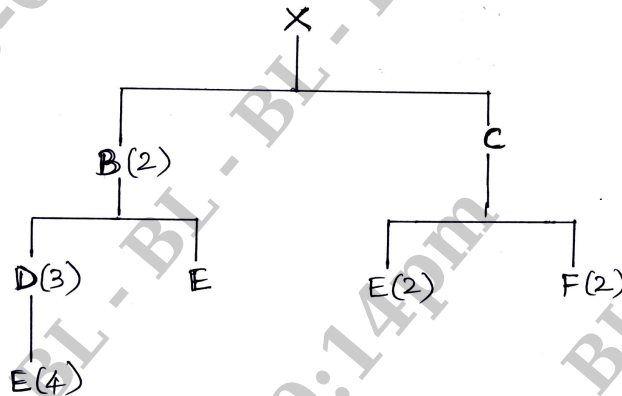

Fig.Q9(b)
- b. Use the information given in the Fig.Q9(b) (product structure tree) and determine the quantities of B, C, D, E and F needed to assemble one X. Taking into account the on-hand inventory of various components given below determine the quantity of these components required to assemble 10 Xs.